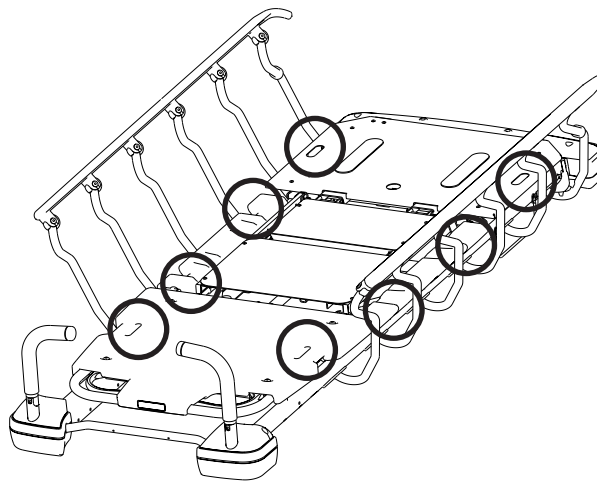

Figure 51: Restraint Strap Locations - Prime
1. Fully retract the foot supports using leg knob (B).
2. Fold the foot support pads (C) down toward the support bar.
3. Loosen the knee knob (A), rotate the foot supports to the position shown in Figure 51 below.
4. Tighten to secure in place using the knee knob (A).
This unit allows the use of ankle, chest, wrist, and body restraints. See Figure 51 for restraint strap attachment points. Do not attach restraints straps to the siderail. Stryker makes no recommendation for the use of restraints.